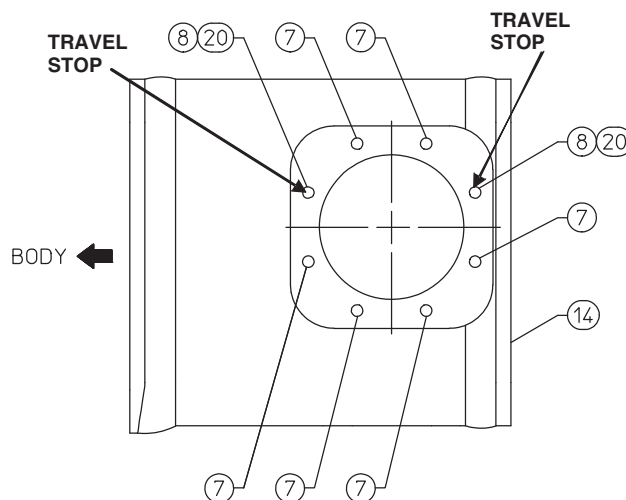

Figure 9. Lower Casing Travel Stop Orientation
2. Place the lower diaphragm casing (key 2) on top of the actuator box (key 14) 7 inch square tube. Install six hex head cap screws (key 7) in holes identified with a number 7 in figure 9. Using a 9/16 inch hex wrench, tighten the cap screws to 41 N•m (30 lbf•ft).
3. Install two travel stop spacers (key 20) onto the two hex head cap screws (key 8) and install into the holes numbered 8/20 in figure 9. Using a 9/16 inch